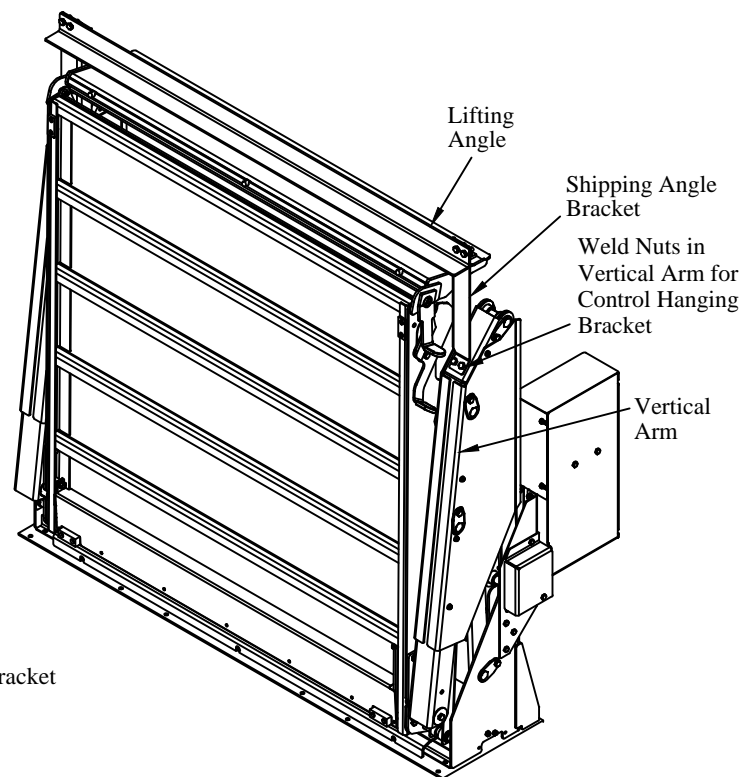

Figure 19: Lifting angle and vertical arm.
5. **Unbolt** and **Remove** the lifting angle and brackets (Figure 19). There are weld nuts inside the vertical arm.